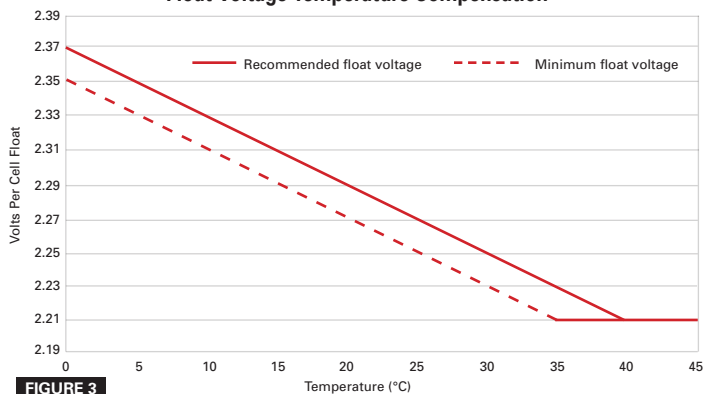

FIGURE 3
- (refer to figure 3 for further details)